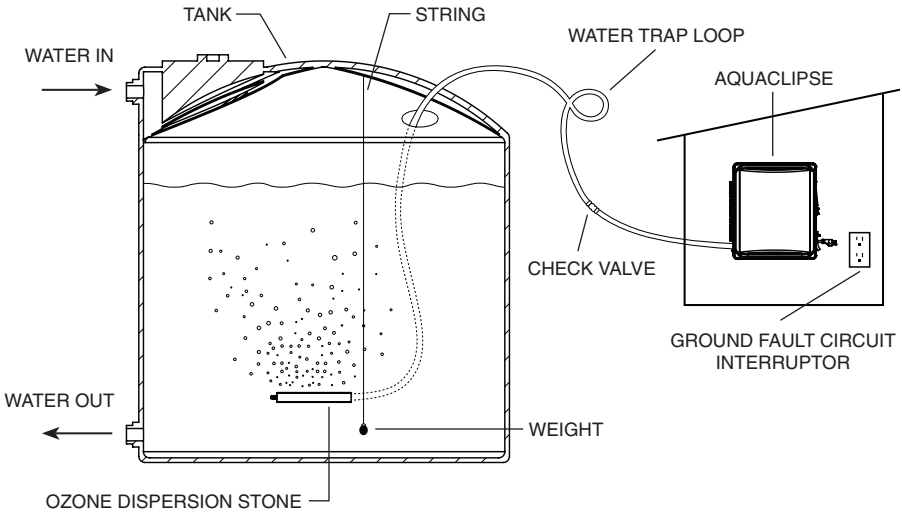

Figure 1: Recommended Installation
Refer to Figure 1 (Next Page)
6. If the generator is mounted below the water line, a water trap loop must be used. To make a water trap loop, simply coil the tubing into a 6" circle, (**Figure 1**), and fasten it above the water line. The plastic check valve provided should be installed in the ozone supply tubing between the generator and the loop, and secured with tubing clamps. Be sure that the flow arrow on the check valve points toward the tank.
hour of operation (**Figure 1**). Plug in the ZO-400 and turn the main power switch on. Rotate the timer clockwise. When the first depressed tab reaches the pointer in the center of the timer, the ozonator will turn on. The ozonator will turn off again upon reaching the first undepressed tab, or when the main power switch is turned off.
To treat water, place the dispersion stone into the water container as shown in Figure 1 and set the timer to make the unit run for the amount of time desired (recommended 24 hr/day operation). Running the unit less than 24 hours per day may work for your set-up, but running the unit for longer will not hurt the water or the system.